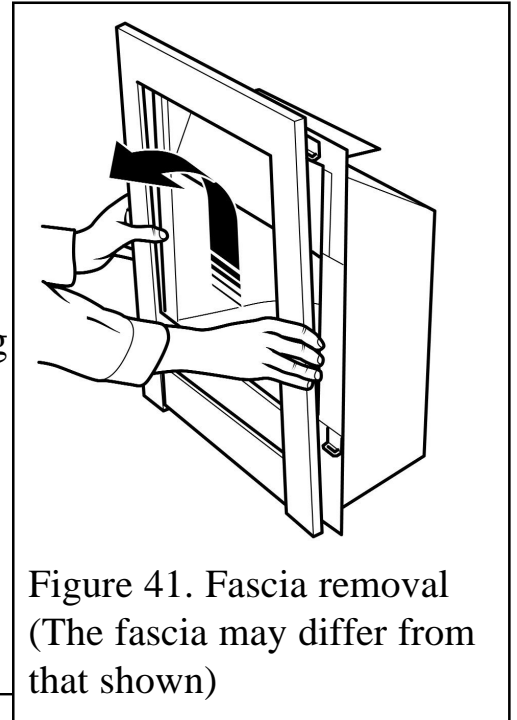

Figure 41. Fascia removal
2. The fascia is held in place by four retaining plates at the back of the fascia. These slot into four retaining brackets on the hotbox. To remove the fascia, hold the sides of the fascia and lift upward and forward. The fascia should lift clear of the hotbox (See figure 41)